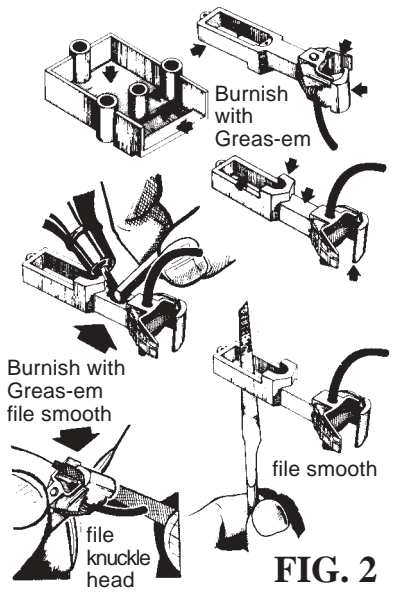

FIG. 2
1. IMPORTANT: Before assembling couplers, check areas shown with "arrows" in Fig. 2 for flash and rough spots - remove with a file.
2. Burnish the "arrow" marked surfaces shown in Fig. 2 with Kadee® #231 Greas-em (a fine dry graphite lubricant especially suited for Kadee® couplers).